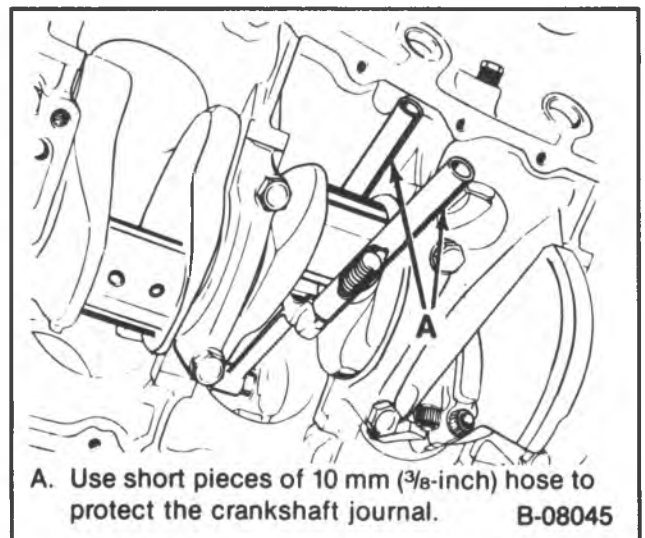
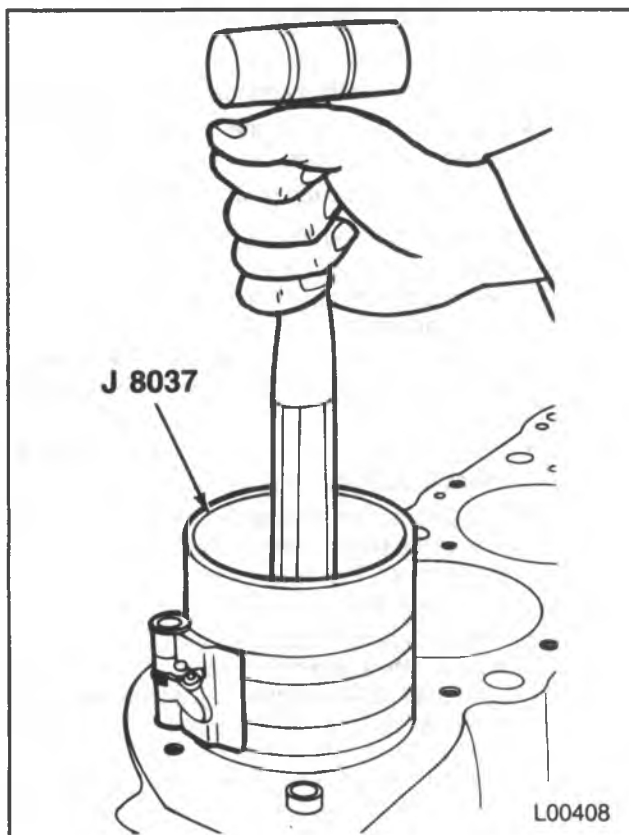

Figure 25 — Replacing the Connecting Rod and Piston
Figure 27 — Installing the Piston and Connecting Rod
Remove or Disconnect (Figure 25)
- Attach two short pieces of 10 mm (3/8-inch) hose to the connecting rod bolts (figure 25). This will protect the crankshaft journal during removal.
Install or Connect (Figures 25 through 28)
- Without disturbing the ring end gap location, install J 8037 over the piston (figure 27).
- Place the piston in its matching bore. Using light blows with a hammer handle, tap the piston down into its bore (figure 27). At the same time, from beneath the vehicle guide the connecting rod to the crankpin with the pieces of hose (figure 25). Hold the ring compressor against the block until all rings have entered the cylinder bore.